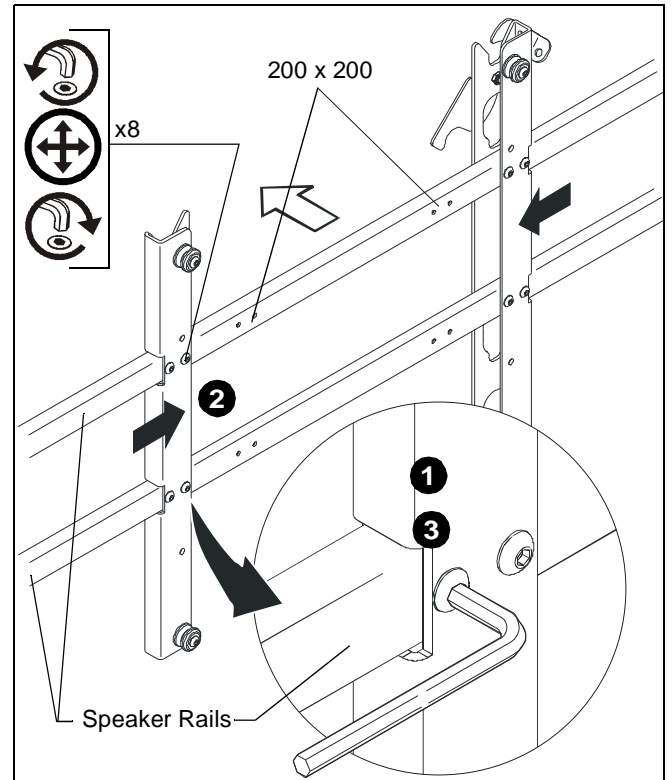

Figure 2
1. Remove eight button head cap screws securing uprights to speaker rails. (See Figure 2)
2. Reposition uprights so that eight mounting holes are aligned with eight inner (200 x 200) mounting holes in speaker rails. (See Figure 2)
3. Secure uprights to speaker rails using eight eight button head cap screws. (See Figure 2)